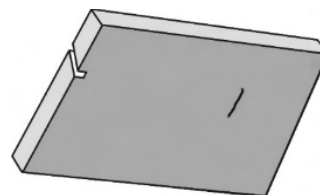

Figure 5-8b
4. Estimate the needed length of the cut when the insert will be installed all the way in. Mark this point on the wood insert (see Figure 5-8b).